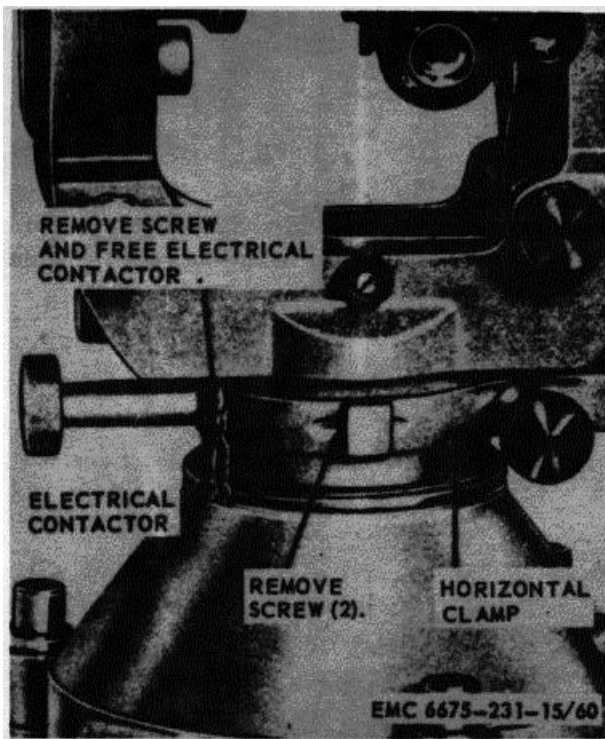

Figure 62. Horizontal clamp, removal and installation.
- (1) Remove the horizontal slow-motion screw (par. 108).
- (2) Refer to figure 62 and remove the horizontal clamp.
- (1) Refer to figure 62 and install the horizontal clamp.
- (2) Install the horizontal slow-motion screw (par. 108).